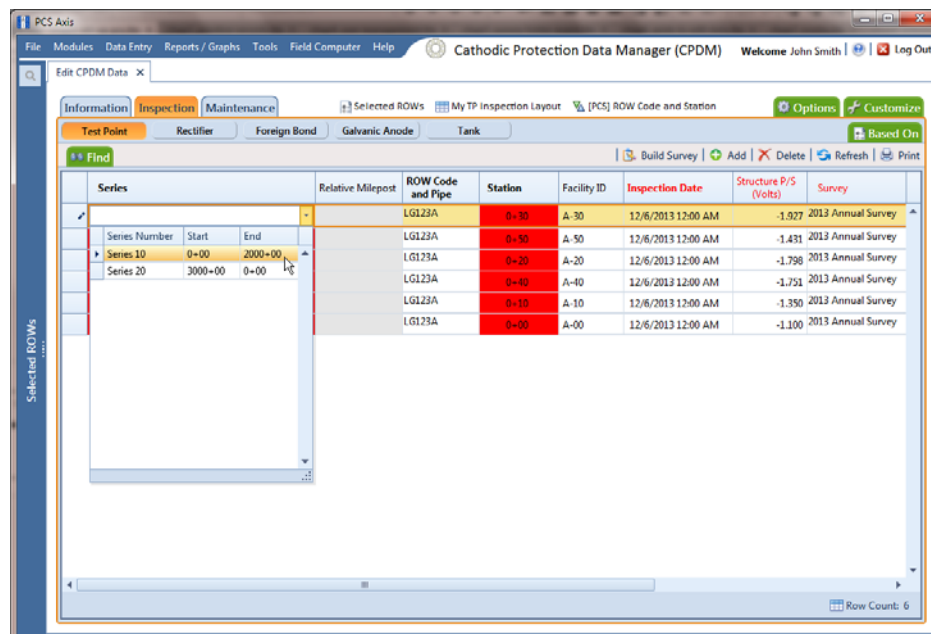

Figure 2-44. Pipeline Series
- 11 Open the data entry grid with the mileposts you want to apply *Pipeline Series*, such as the *Test Point Inspection* data grid shown in the next example (Figure 2-44, page 78).